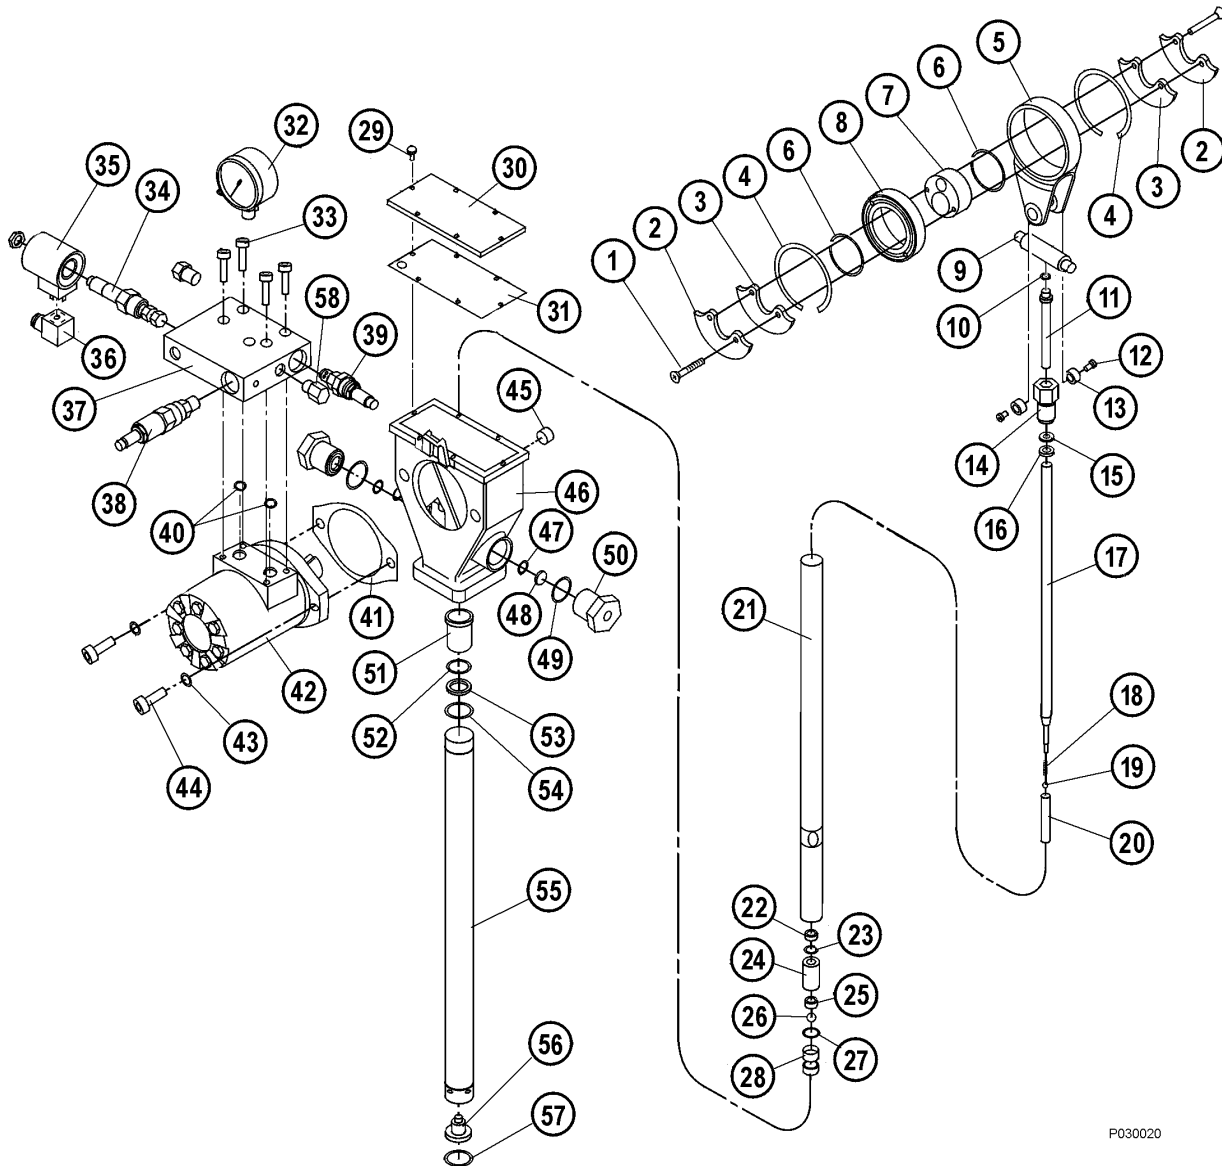

FIGURE 3-10. LUBE PUMP ASSEMBLY
1. Remove the four socket head screws (33, Figure 3-10) and separate the manifold (37) from the hydraulic motor (42).
2. Remove pipe plug (45) and drain the crankcase oil from pump housing (46).
3. Remove the six screws (29) and remove the housing cover (30) and cover gasket (31).
4. Remove retaining ring (57) and pull the shovel plug (56) from the housing tube (55).
5. Remove two socket head screws (44) and separate hydraulic motor (42) from the pump housing (46).
6. Remove two outlet pin nuts (50) from pump housing.
7. Remove the pump subassembly (1 through 28) from the pump housing. Pushing the subassembly up with a .75 in. (19 mm) diameter wooden or plastic rod against the check seat housing (28) is helpful.
8. Remove the housing tube (55) from the pump housing by inserting a .75 in. (19 mm) diameter rod through the inlet holes at the bottom of the housing tube and unscrewing it.
9. Remove the bronze bearing (51), O-ring (52), backup washer (53), and O-ring (54) from the housing tube.
10. Remove the crankrod assembly (1 through 8) from the pump by unscrewing the button head screws (12) and then pulling out the wrist pin bushings (13).
11. Remove the check seat housing (28) from the reciprocating tube (21).
1. Support ball bearing (8, Figure 3-10) inner race and press eccentric (7) into bore. Install small retaining rings (6).
2. Assemble crankrod assembly parts; large retaining rings (4), inner weights (3), outer weights (2) and install flat head screws (1). Tighten to **100 - 110 in. lbs. (11.3 - 12.4 N.m)** torque.
3. Using a new O-ring (10), install install plunger tube (11) on outlet pin (9). Tighten to **100 - 110 in. lbs. (11.3 - 12.4 N.m)** torque.
4. Assemble the wrist pin anchor (14), backup washer (15), cup seal (16) and plunger link rod (17) onto plunger tube (11). Tighten to **100 - 110 in. lbs. (11.3 - 12.4 N.m)** torque.
5. Assemble spring (18), ball (19), and plunger (20) on plunger link rod (17). Tighten plunger to **100 - 110 in. lbs. (11.3 - 12.4 N.m)** torque.
6. Install reciprocating tube (21) onto wrist pin anchor (14). Tighten to **20 - 25 ft. lbs. (27.1 - 33.9 N.m)** torque.
7. Install cup seal (22), O-ring (23), cylinder (24), ball cage (25), ball (26), O-ring (27) and check seat (28) into reciprocating tube (21). Tighten check seat housing to **20 - 25 ft. lbs. (27.1 - 33.9 N.m)** torque.
8. Assemble crank rod assembly, to pump with bushings (13) and button head screws (12). Tighten screws to **100 - 110 in. lbs. (11.3 - 12.4 N.m)** torque.
9. Place pump subassembly (parts 1 through 28) into pump housing (46).
10. Install new O-ring (54), backup washer (53) and O-ring (52) and bronze bushing (51) into housing tube (55).
11. Install housing tube assembly onto pump housing (46). Be certain reciprocating tube (21) is inserted through both bushings. Using a .75 in. (19 mm) diameter rod through the inlet holes at bottom of tube, tighten to **20 - 25 ft. lbs. (27.1 - 33.9 N.m)** torque.